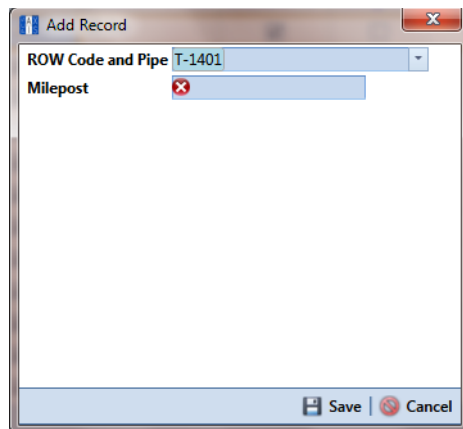

Figure 7-10. Add Record
- c Click  **Save** to display required field(s) for data entry. Required fields are identified with the  icon, such as *Milepost* in the following figure (Figure 7-10).